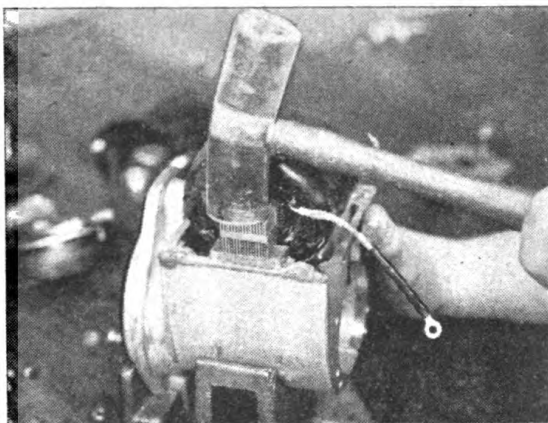
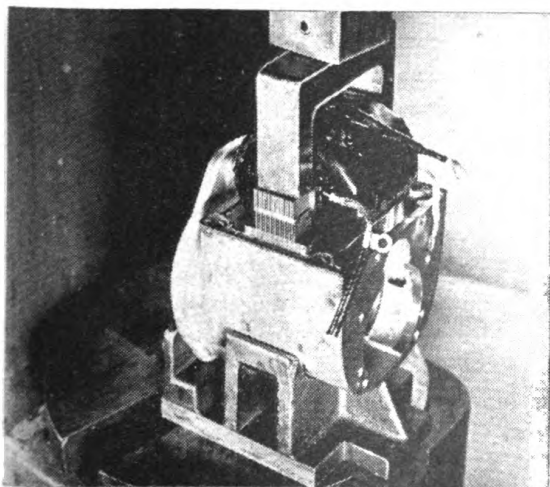

Fig. 52. Interlocking and Starting Coil Bar
Fig. 53. Pressing Coil Into Place Using Yoke in Ram of Arbor Press
- (c) Place the magneto in magneto frame supporting stand on the table of the arbor press. Put the yoke for driving coil on pole pieces No. 9 Fig. 37 in the ram of the arbor press. Press the coil firmly back into place. Fig. 53.
If necessary to replace, place it in frame as in Fig. 52 starting interlacing bridge with the pole pieces. Press to place as shown in Fig. 53. For complete explanation see "The Coil" page 75.